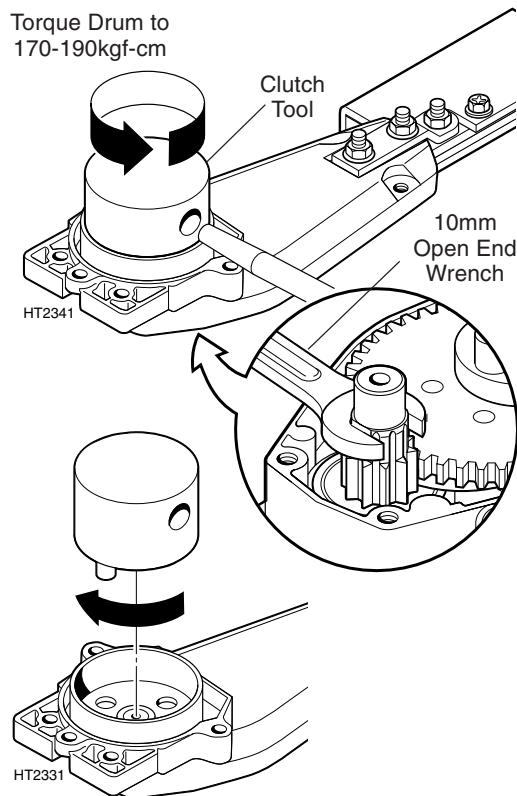

Figure 25. Tightening the clutch drum.
STEP 3. Use tool p/n 99909-20230 to tighten the drum firmly on the shaft (Figure 25).